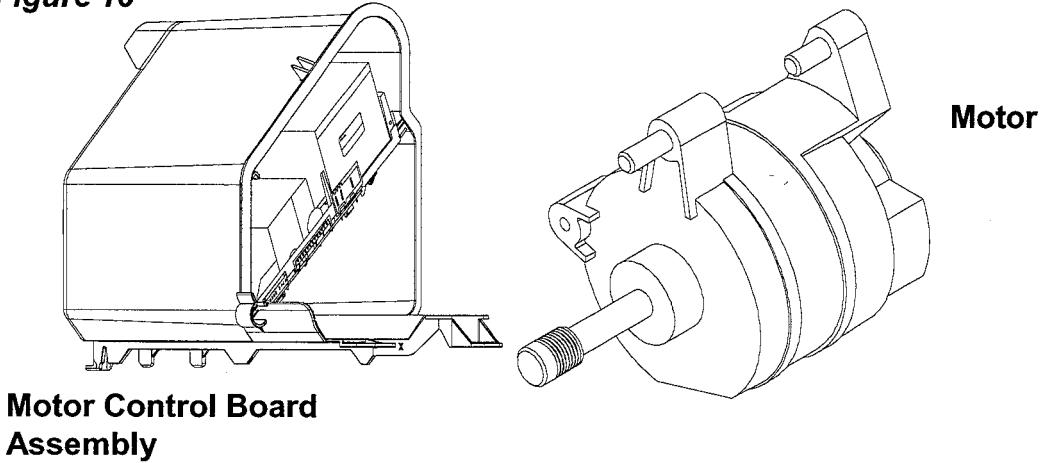

Figure 11
- At series 14 a different drive motor system was introduced. The operation will be similar but the motor and motor control board are different. **Figure 11**